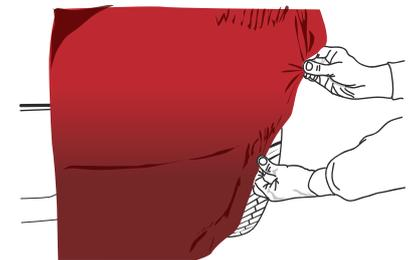

Figure 26
- ▶ Stretch the vinyl over the flat part. (FIG. 26)